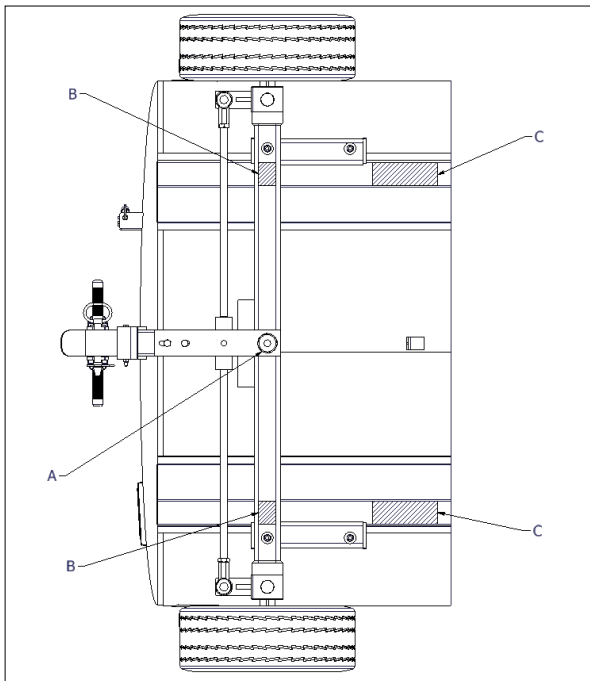

Figure 4-11 Lift Points
- Raise equipment with suitable maintenance jack (see Figure 4-11, reference arrow A for jack placement) high enough to remove wheel assembly.
- Place approved jack stands under front axle (see Figure 4-11, reference arrow B for stand placement).
To remove the entire Front Undercarriage assembly, the equipment must have the front end raised. See Figure 4-11 for lift points.
- Raise equipment with suitable maintenance jack (see Figure 4-11 reference arrow A for jack placement) to allow four inches of space between the wheels and ground.
- Place cribbing under tank skids (see Figure 4-11, reference arrows C) to safely support the equipment.
- Remove bolts (2) and nuts (3).
- Pull Front Undercarriage forward. Note location of rubber mounting pads (5).
- Raise equipment with suitable maintenance jack high enough to remove wheel assembly. (see Figure 4-11, reference arrow A for jack placement) .
- Place approved jack stands under rear axle (see Figure 4-11, reference arrow B for stand placement).